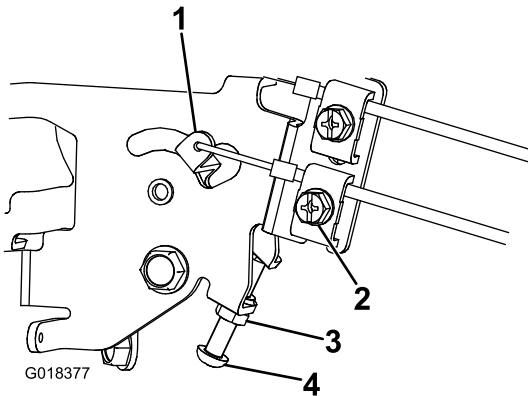

Figure 9
1. Loosen the locknut and unscrew the high idle screw a few turns. When setting the engine speed on power units connected to models 02710 and 02711, replace the high idle screw with the high idle M5 x 50 screw supplied with 02710 and 02711 (Figure 9).
3. Turn the high idle screw so that the end of it just touches the speed control lever, and tighten the lock nut (Figure 9).